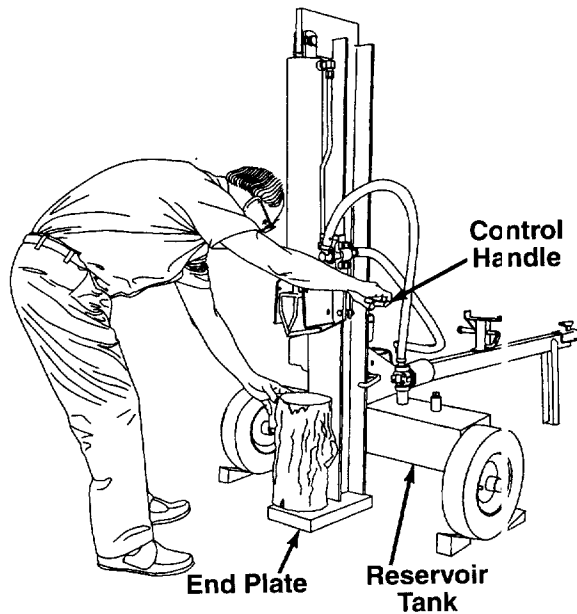

FIGURE 12.—Vertical Position
Use the log splitter only on a level, hard surface. Never stand beside the splitting wedge when operating the log splitter. Stand behind the reservoir tank when operating the log splitter in the horizontal position; stand in front of the log splitter when operating in the vertical position. See figures 12 and 13.
- Vertical—Stand in front of the log splitter. Operate the control handle with your right hand and stabilize the log, if necessary, with your left hand. See figure 12.